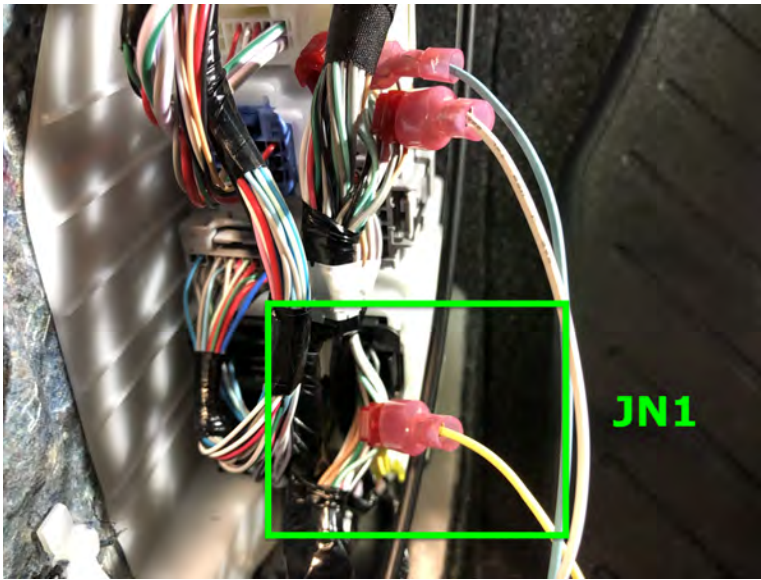

Figure 33
- (b) Separate the REMOTE MIRROR wire (Pin #9 / Color LIGHT GREEN) from the bundle. Figure 33.